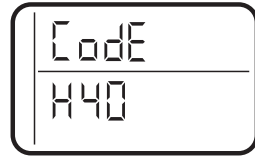

Figure 19
6. Press and hold the **MODE/SET** button until the mode code (H40 for GXSH40V or H45 for GXSH45V) shows in the display (see Figure 19). This code identifies the softener mode. If an incorrect model code is displayed, the softener will operate on incorrect configurations data.